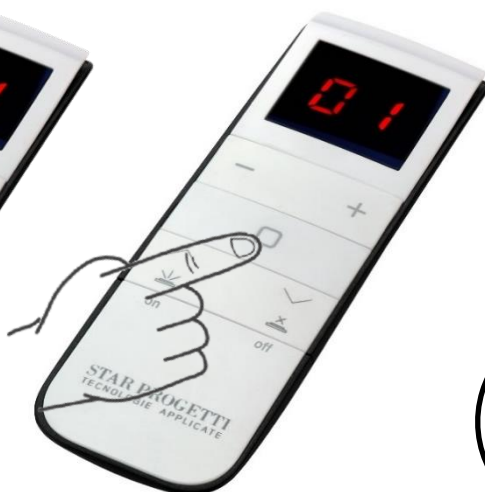

Fig.7
- Immediately afterwards press the button as shown in Fig. 7.